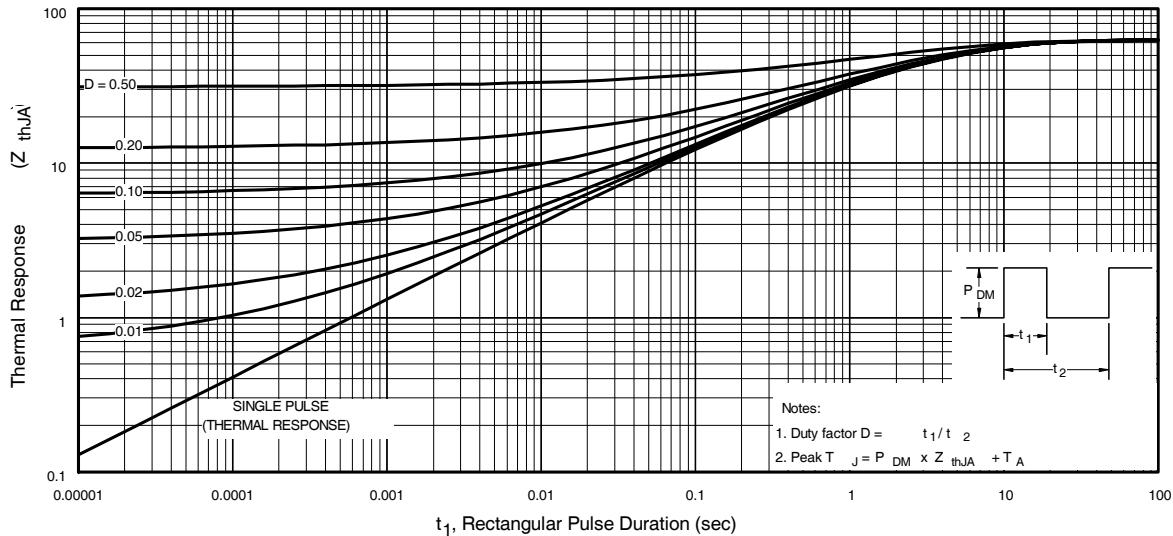

Fig 11. Typical Effective Transient Thermal Impedance, Junction-to-Ambient
- $Z_{thJC}(D, t_{av})$ = Transient thermal resistance, see figure 11)